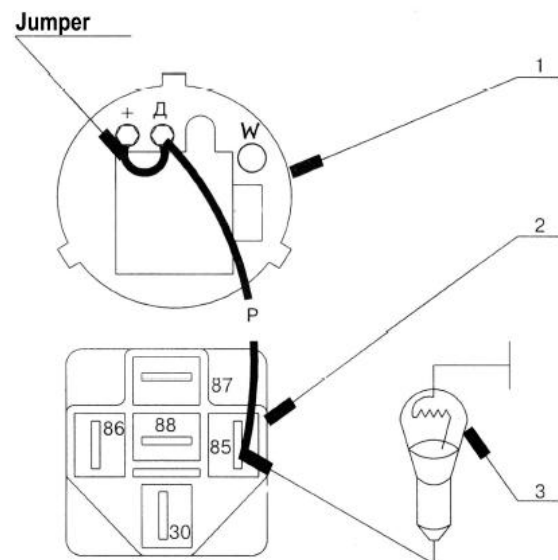

Fig. 12. Checking the integrity of the circuit from the interlock relay K6 to the terminals “Д” of the alternator “G1”:
c) Check the integrity of the circuit from the starter interlock relay (K6) to the alternator terminals "Д", (Fig. 12) when the engine is not running and battery disconnect switch is set to the ON position: